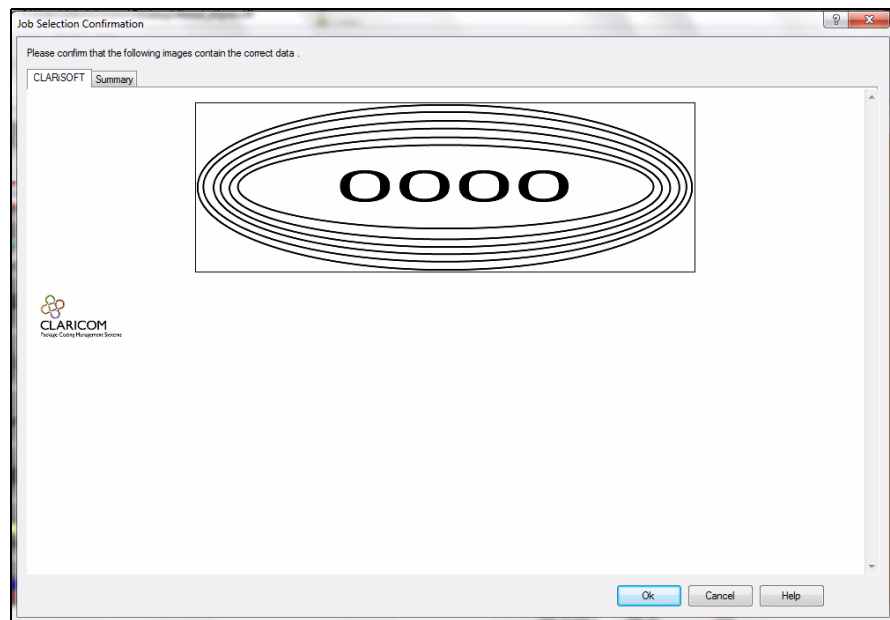

Figure 5-27: Confirmation Window
- 8 The confirmation window appears (see Figure 5-27).